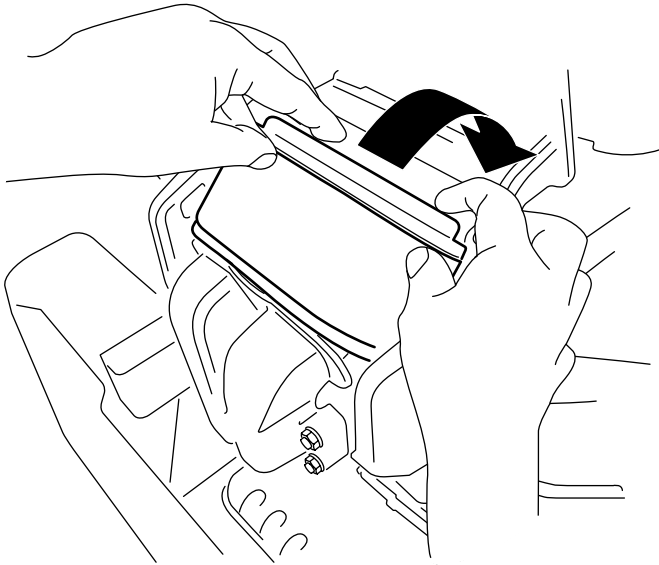

Figure 29
3. Rotate the filter down into the chamber and fully seat it against the manifold (Figure 29).